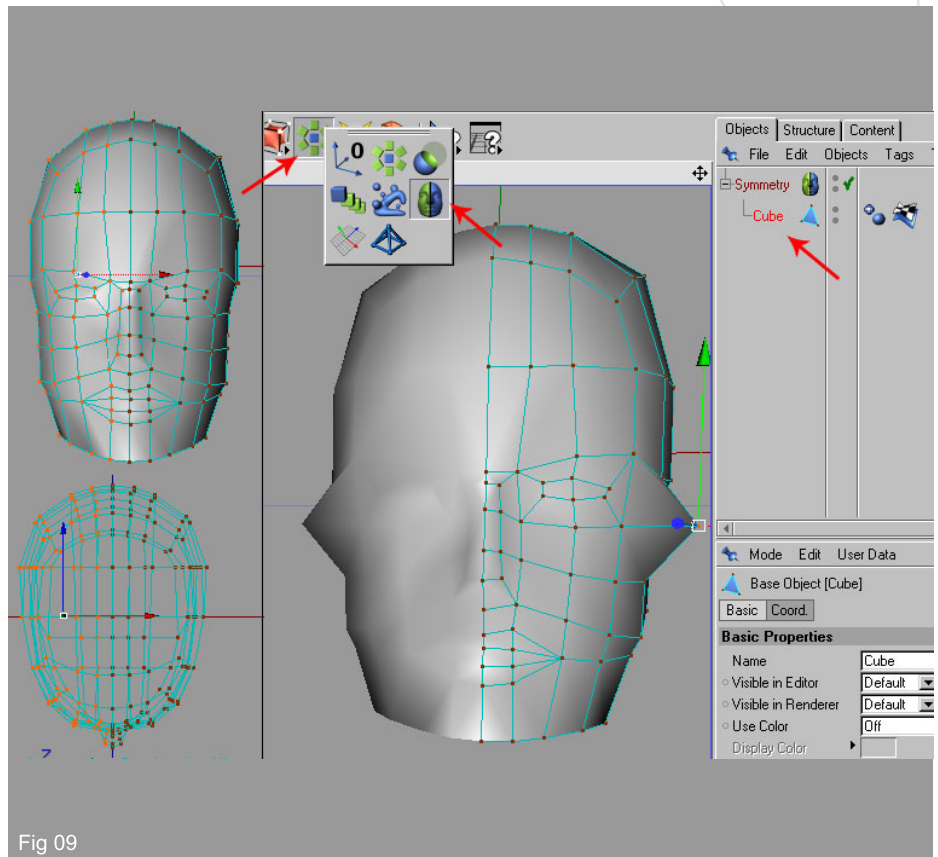

Fig 09
9. Now that we have a reasonable amount of detail it is time to delete half of our mesh and apply the Symmetry object so that we can work on just one half of the model and see the results mirrored in a duplicate. In this way we can ensure that the head is the same either side of the central line but reduce the number of polygons that need manipulating. Use the Rectangle selection to select the right half of the head, making sure 'Only Select Visible Elements' is unchecked. Delete these selected points and apply the Symmetry. Drag the head into Symmetry object. (Fig 09)